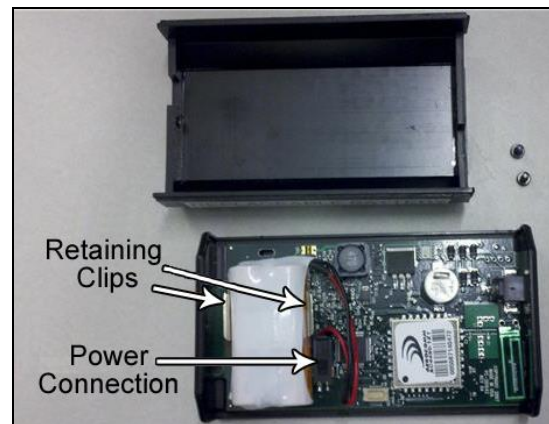

Figure 29: Handheld Unit, Cover Removed
2. Disconnect the 2-pin battery power cable from the main circuit board, and remove the battery from the retaining clips (**Figure 29**).